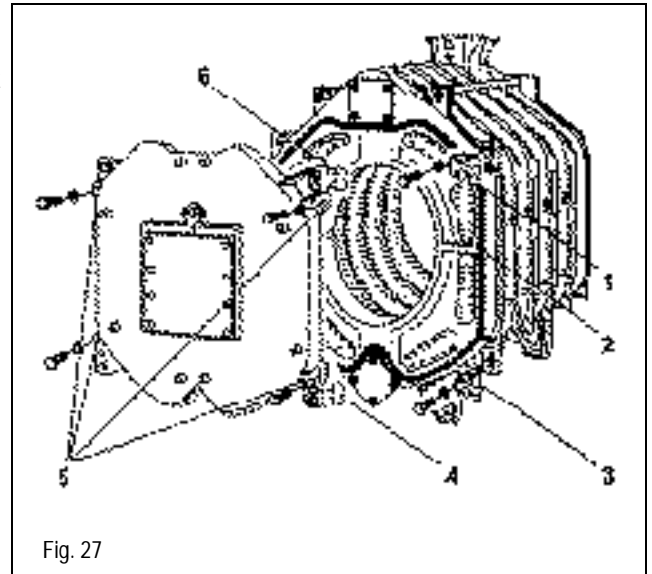

Fig. 27
- Based on a right swinging door, secure the door hinges on the right side of the front section using 2 M12x50 bolts (Fig. 27). For a left swinging door, mount door hinges on left side of the front section.
- Using “Silastik” glue, secure the GP 18 mm rope in the front section grooves (Fig. 27). The ends must meet on the side in the middle (2).
- Close burner door and secure with 4 M16x140 burner door bolts. Tighten these bolts crosswise and evenly (Fig. 27).